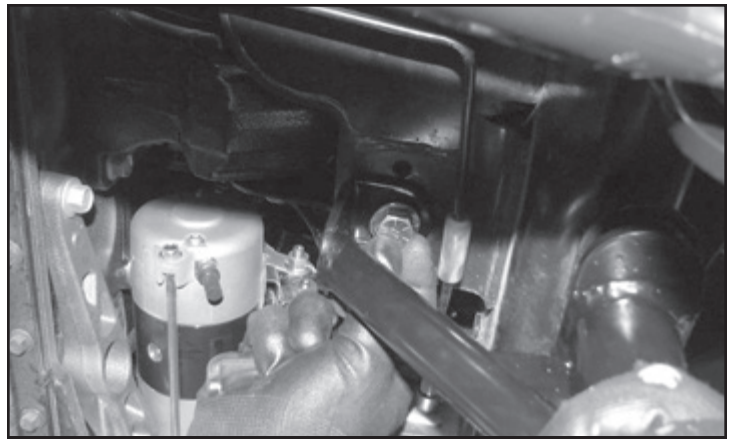

**FIGURE 23 - STEP 32**
32. Using a 1/2" drill bit, drill out the hole in the factory crossmember inline with the factory bump stop mount. **SEE FIGURE 23**